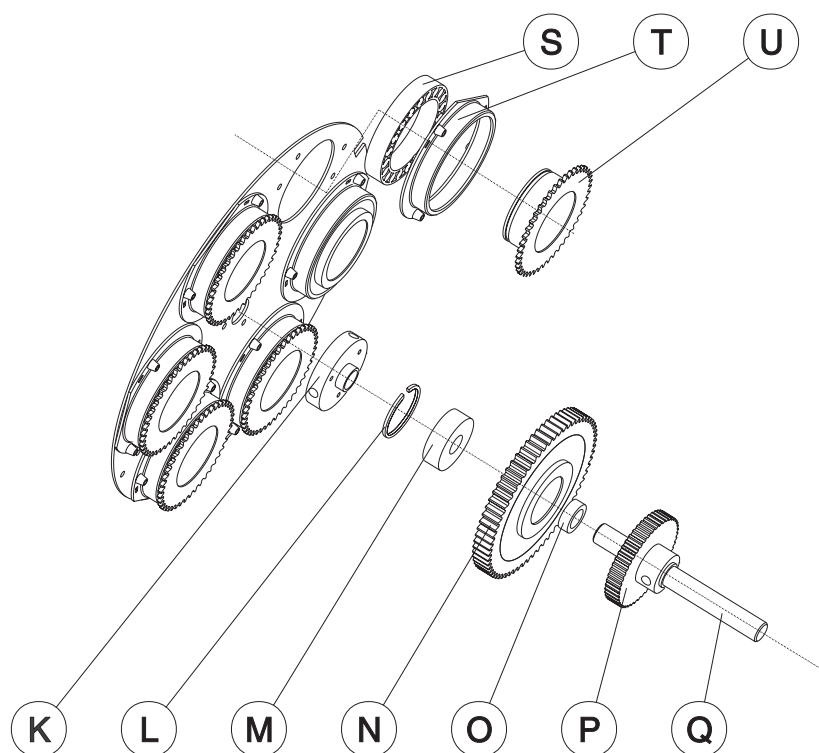

Figure 2-3
1. Refer to Figure 2-3. Remove the rotating-gobo wheel (J).
2. Loosen the 2 set screws and pull the adaptor (K) off the axle.
3. Use a gear puller to remove the drive gear (N) and bearing (M). There is no need to remove the locking ring (L).
2. Refer to Figure 2-3. With the locking ring (L) facing the gobo wheel, press the silicone gear (N) and bearing (M) onto the shaft together, all the way to the gear (P).
3. Install adaptor (K). The end of the shaft should be flush with the face of the adaptor. Do not tighten the set screws.
2. Refer to Figure 2-3. Remove the outer ring (T).
3. Remove the retaining spring (not shown) from the back of the gobo holder (U) and remove the holder.
4. Remove the bearing (S) from the outer ring (T).